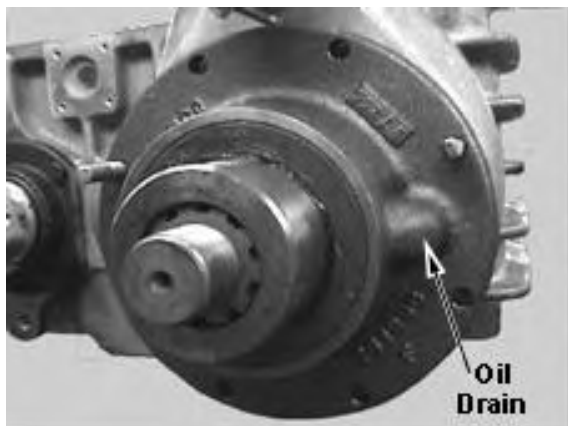

Fig. 84
43. Install front output shaft into declutch housing using a new gasket. Align bearing oil drain with the bottom of the case. Apply Loctite #272 to bolt threads and torque to spec. *See Fig. 84.*